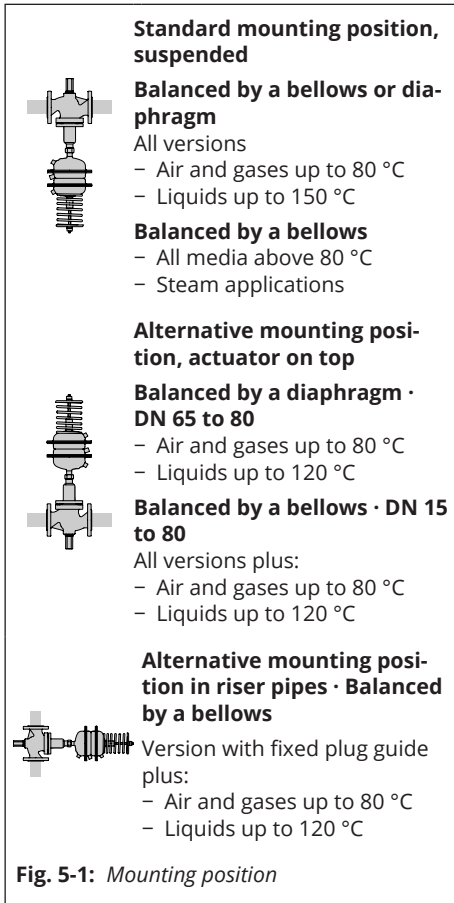

Fig. 5-1: Mounting position
- Standard mounting position: install the actuator housing suspended downward in horizontal pipelines (see Fig. 5-1).